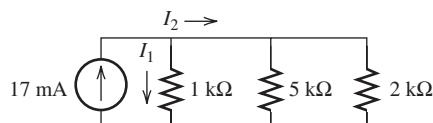

FIGURE P3.18 Circuit for Problem 3.18.
- 3.18 (A)** Find I_1 and I_2 in Figure P3.18.
- 3.22 (A)*** Using the current division formulas in Problem 3.21 to recompute the currents through 1 kΩ, 5 kΩ, and 2 kΩ in Figure P3.18.